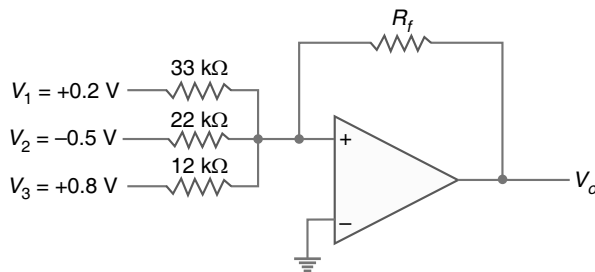

Fig. 23.106
13. Calculate the output voltage of the circuit in Fig. 23.106 for  $R_f = 68$  k $\Omega$ . [ $V_o = - 3.39$  V]